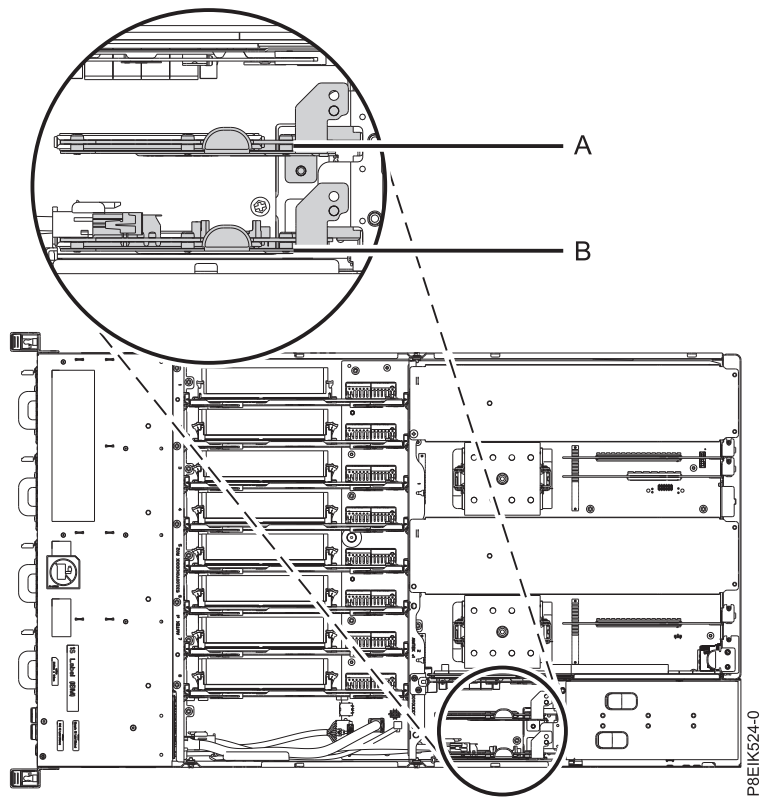

Figure 98. Location of the power risers
3. Locate the power risers. Figure 98 on page 83 shows the location of the power risers in the 8335-GTB system. The (B) power riser contains the time-of-day battery and the connector for the fan power cable.